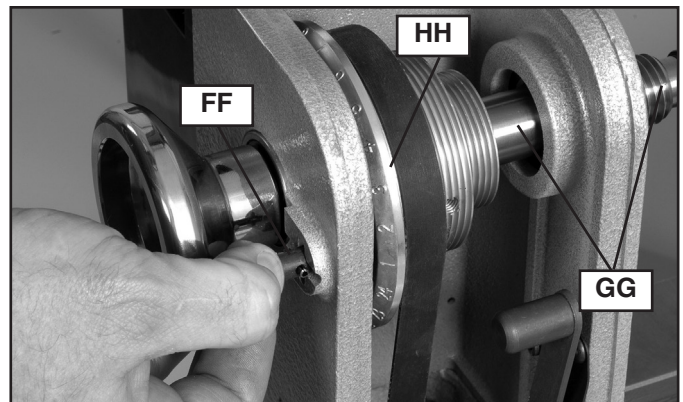
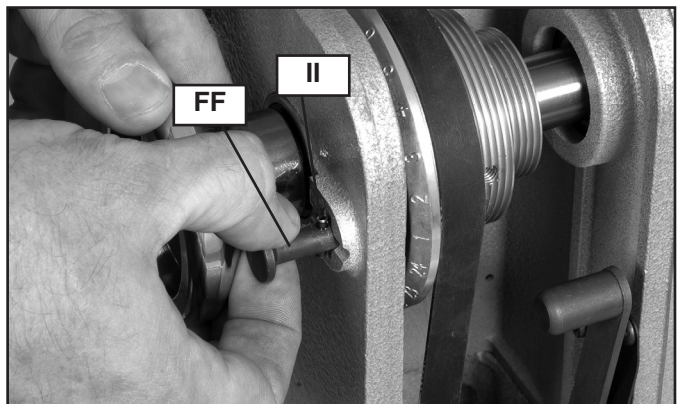

Fig. 21
Fig. 21a
The lathe is equipped with an indexing pin (FF) Fig. 21. The pin allows the spindle (GG) to be locked in 24 positions—as labeled on indexing wheel (HH)—for use in various operations. To use:
1. Rotate indexing wheel (HH) so spindle (GG) is in desired location.
2. Pull back index pin (FF) slightly from retaining groove.
3. Rotate indexing pin 90 degrees so the crosspin (II) lines up with recess, as shown in Fig. 21a.
4. Release indexing pin (FF) so that it engages numbered indexing wheel (HH) Fig. 21 and locks spindle (GG) in place.